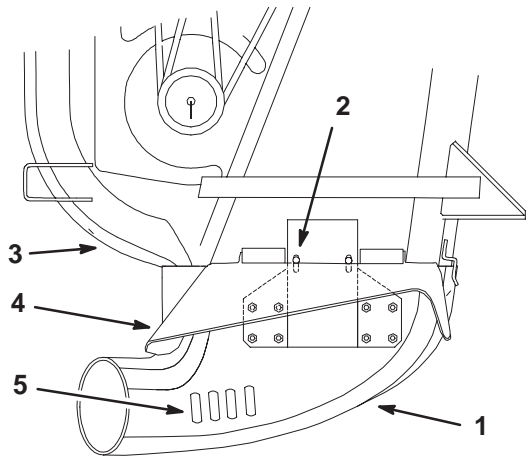

Figure 14
3. Install the boot onto the mower by lifting the mower discharge chute and sliding the boot bracket between the grass deflector and the mower deck (Fig. 14).
4. Release the grass deflector. This will lock the boot in place behind the bolt heads (Fig. 14).
5. If the bolts are not positioned correctly to lock to boot in place, loosen the bolts, slide them to the correct position so that the deflector locks the boot in place (Fig. 14).